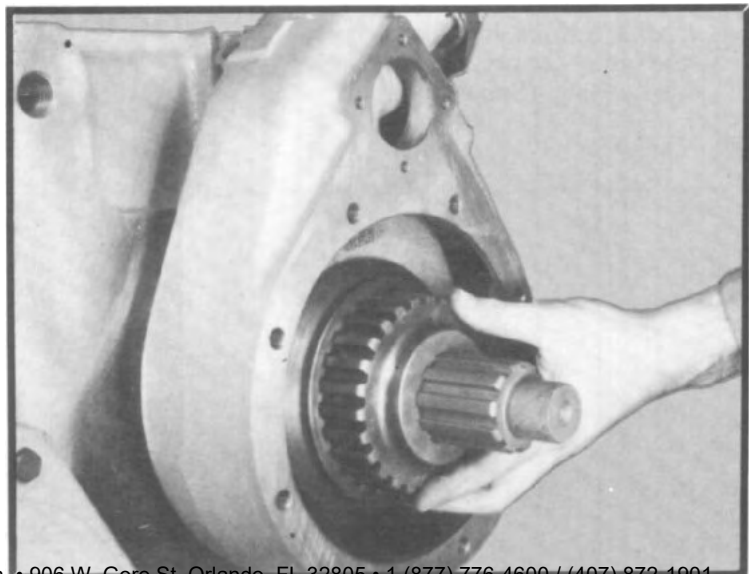

Fig. 162
3. Slide the lockout gear onto the spline of inner shaft and into the clutch collar. (See fig. 162.)